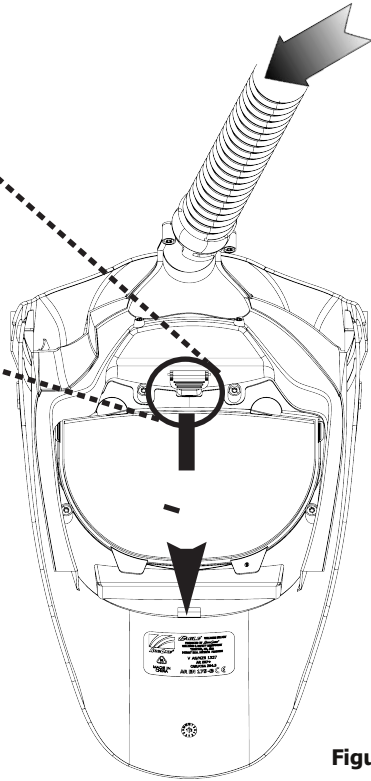

Figure 13a
- a. An open valve allows more air flow at the top of the airduct (Fig. 13a and 13b).